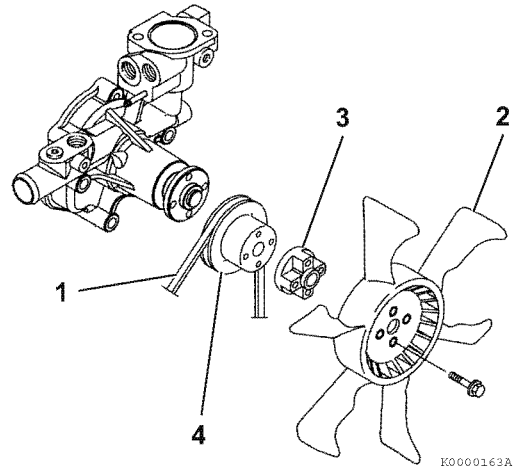

Figure 7-35
13. Reinstall the coolant pump V-pulley (4, **Figure 7-35**), spacer (3, **Figure 7-35**) (if equipped) and engine coolant fan (2, **Figure 7-35**).
14. Reinstall the cooling fan V-belt (1, **Figure 7-35**). Adjust it as described in *Check and adjust cooling fan V-belt on page 5-7.*